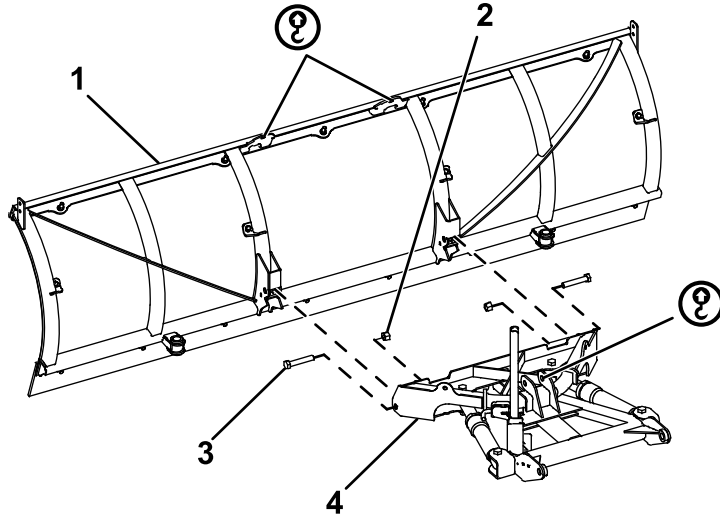

Figure 3
1. Attach the front of the push-frame assembly to the plow blade using 2 bolts (5/8 x 4 inches) and self-locking nuts (Figure 3). Torque the bolts to 153 N·m (113 ft-lb).